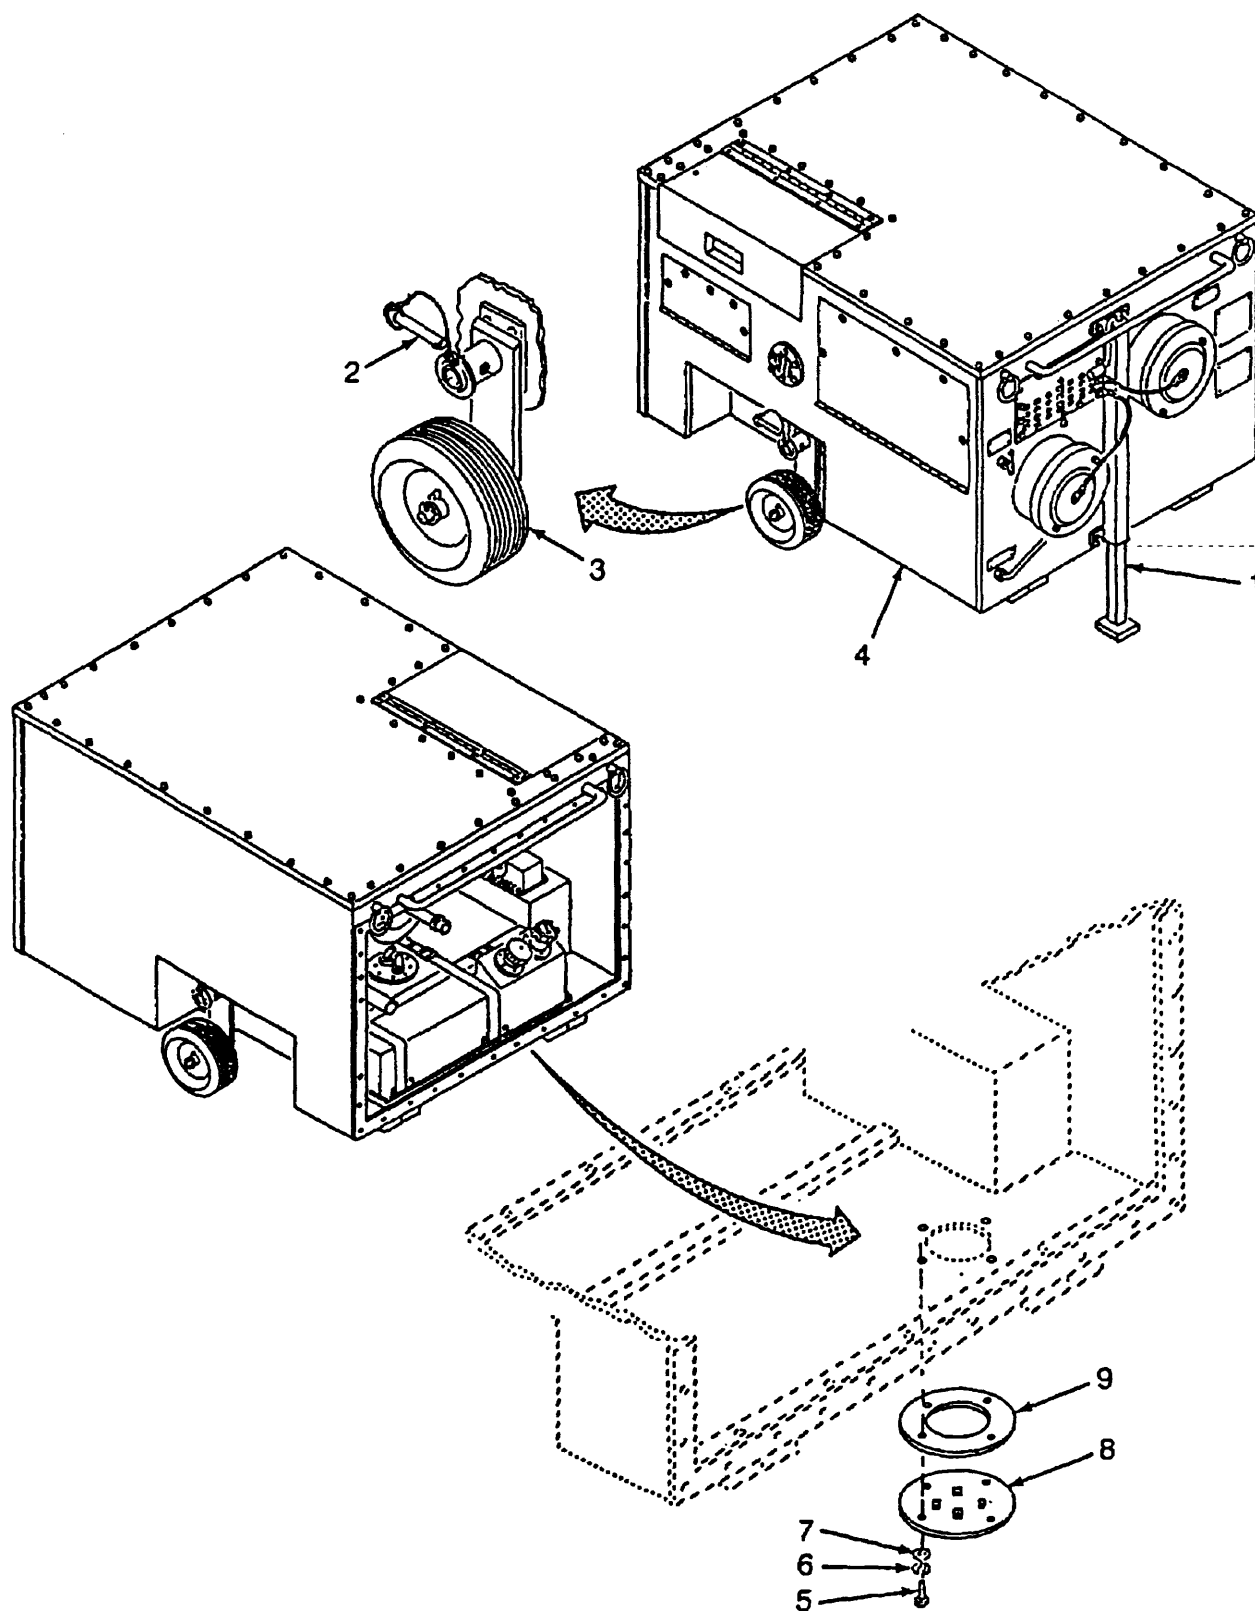

Figure 4-67. Fuel Tank Removal
a. Removal (Refer to Figure 4-67)
- (1) Extend jack assembly (1), remove pin (2) and place wheel assembly (3) in the down position. Insert pin (2).
- (2) Retract jack assembly (1) until front of Unit (4) is resting on the ground.
- (3) Remove four screws (5) four lockwashers (6), four flat washers (7), fuel drain cover (8), and gasket (9). Discard lockwashers and gasket.